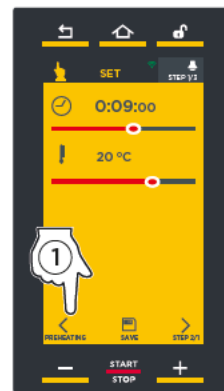

fig. S3
- 1 tap the symbol **<** (see fig. S3)